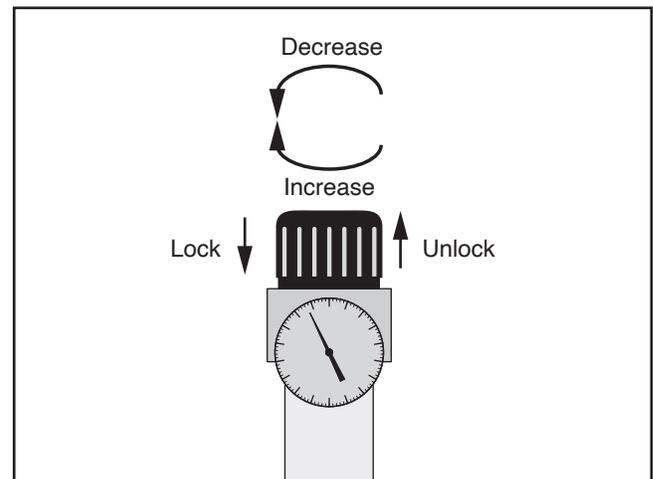

Figure 18. Regulator knob adjustment.
5. Lift regulator knob to unlock (see **Figure 18**) and rotate it until gauge reads 75 PSI.